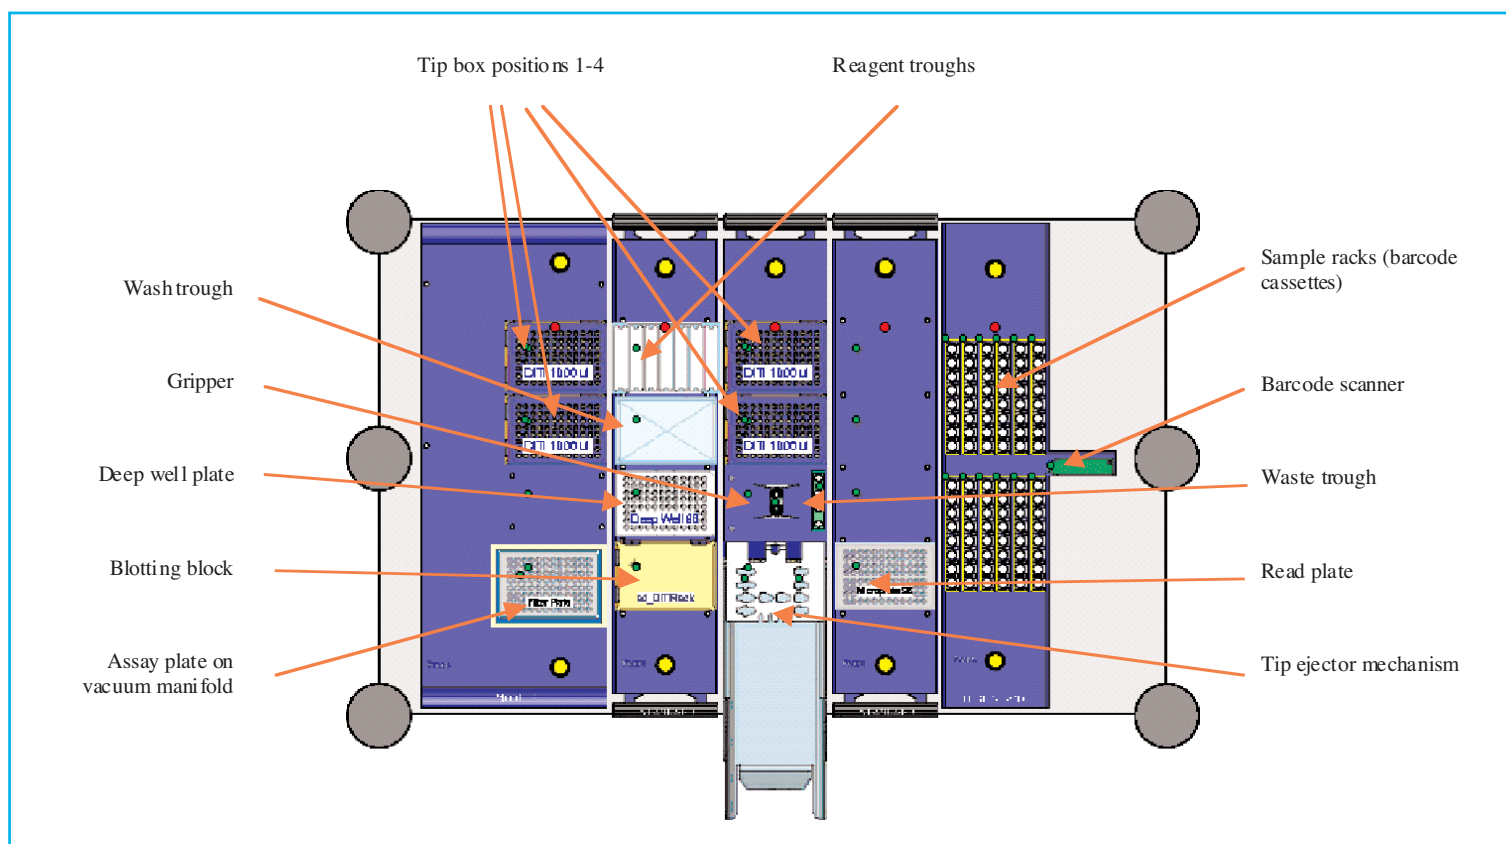

Figure 3. UltraPlex™ SmartStation hardware layout
2. Check that the tip waste bin and tip ejector mechanism (Figure 3) are empty.
3. Check that the waste trough (Figure 3) is empty.
2. Place four boxes of 96 Rainin 1000 µl tips onto the deck in positions 1, 2, 3 and 4, as indicated in Figure 3. Press tip boxes firmly down to ensure correct alignment on the holder.